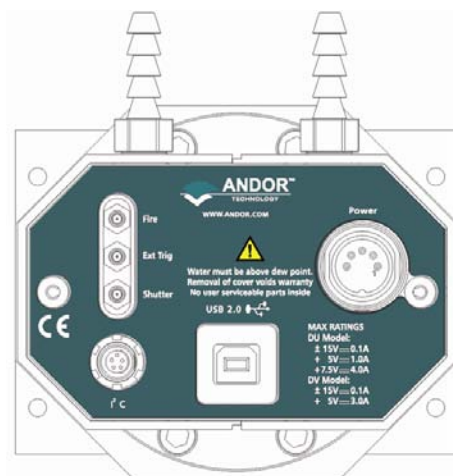

Figure 5: iDus connection points
- Connect the PS-24 or PS-25 supplied to the **Power** connection point on the rear of the camera (please refer to **figure 5** on the previous page)
- Connect the USB cable between the connection point on the rear of the camera (again, please refer to **figure 5** on the previous page) and any available USB 2.0 port on the PC